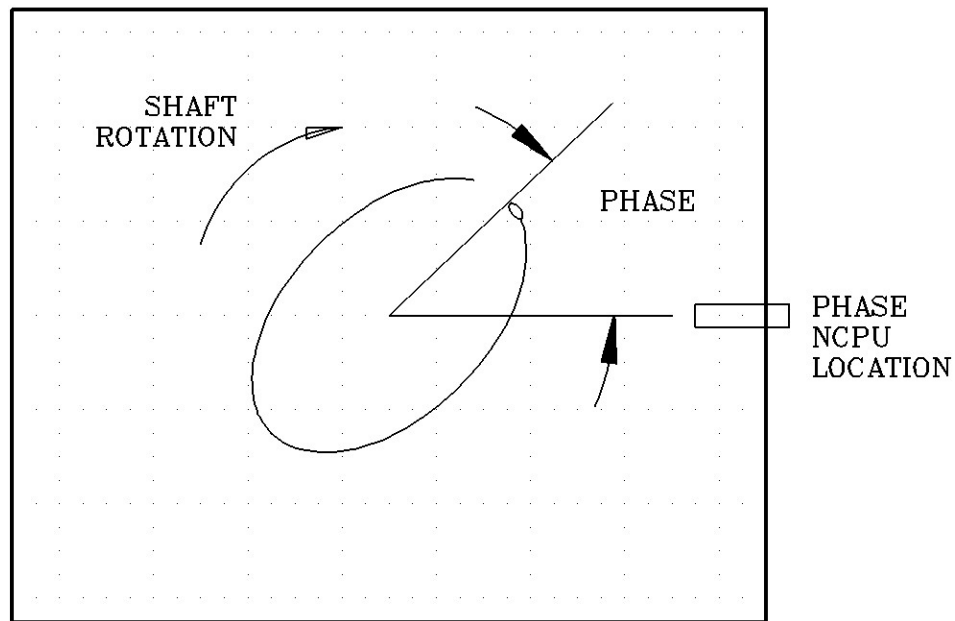

Fig. 3.6
15. Re-adjust the oscilloscope controls for XY operation. Center the signals in the oscilloscope display. The display should resemble Figure 3.6. Phase measurements are obtained by noting the location where the Phase transducer is located (horizontal) to the bright spot on the orbit. Remember that phase measurements are made against shaft rotation.